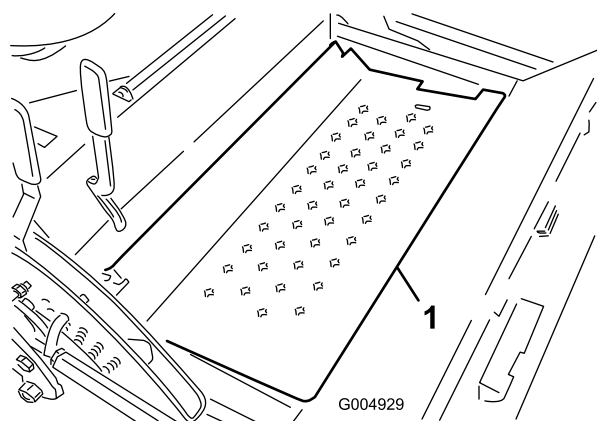

Figure 88
33. Pivot open the floor plate (Figure 88).